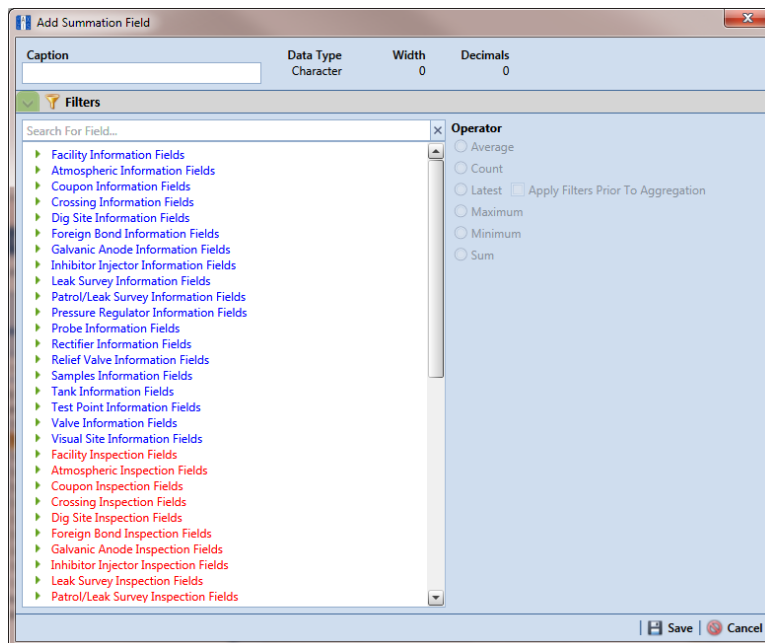

Figure 3-62. Add Summation Field
- 4 Click  **Summation** in the toolbar to open the *Add Summation Field* dialog box (Figure 3-62, page 115).